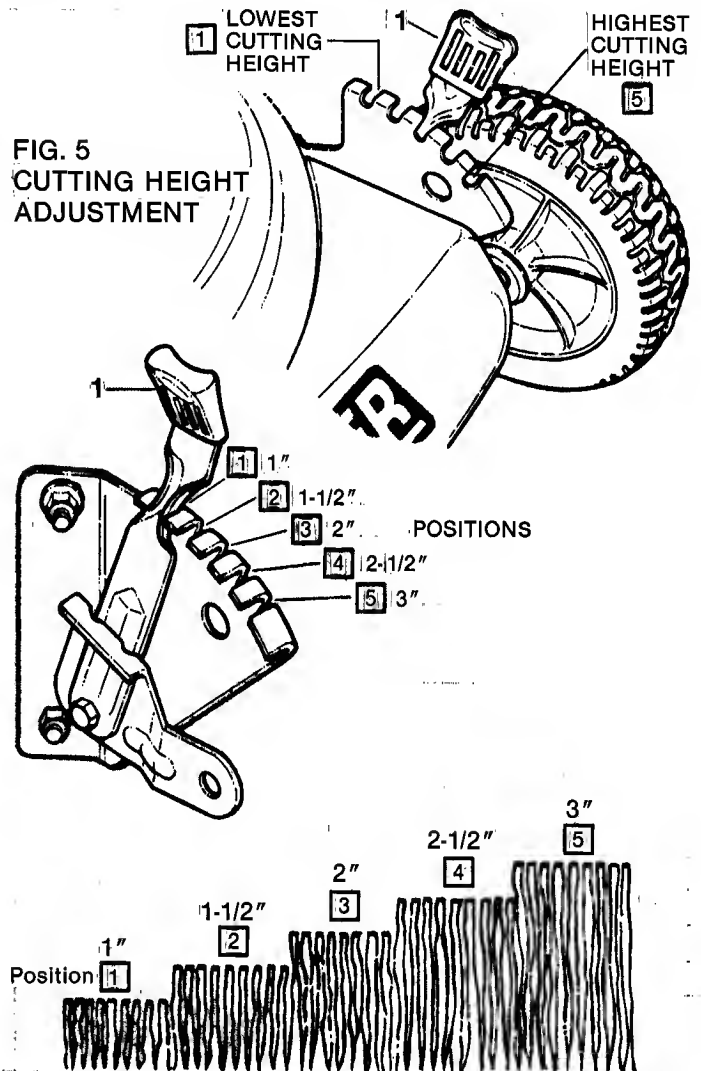

FIG. 5-A CUTTING HEIGHT SETTINGS
•**CHECK** cutting height and adjust as needed, to suit the prevailing grass conditions. Refer to FIG. 5.
NOTE: The highest cutting position is attained with the four latches set in notch 5. The lowest cutting position is with latches set in notch 1. Refer to FIG. 5.
During dry seasons, allow the grass to grow taller than normal. Refer to FIG. 5-A.